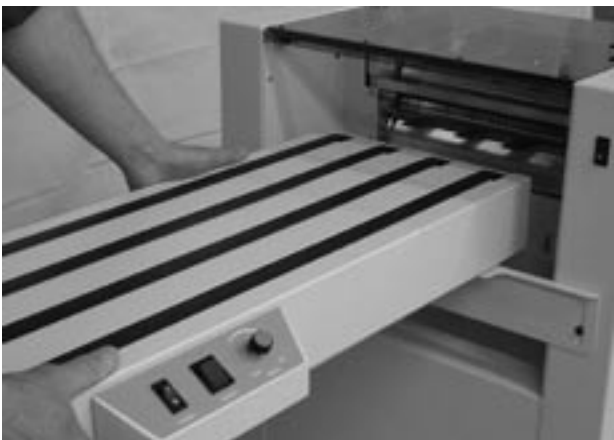

Fig 2
3. Turn the conveyor to its upright position and roll it up to the sealer so that holes on the underside of the conveyor line up with the holes in the mounting bracket. The conveyor should fit up tight against the sealer outfeed (Fig 2).